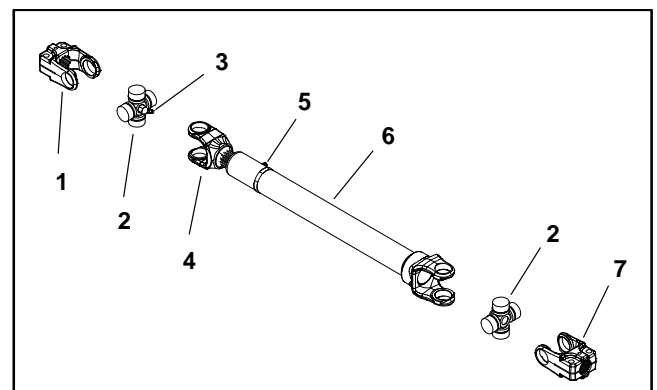

Figure 46
1. Position PTO drive shaft to machine. Make sure that drive shaft yoke and slip tube (item 6 in Fig. 46) is toward cutting deck gearbox shaft.